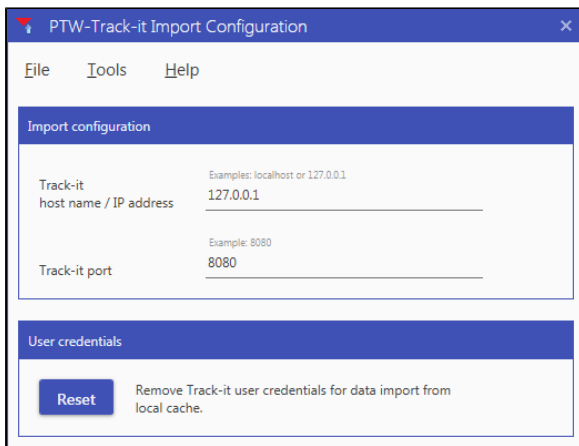

Figure 2: *Track-it Import Configuration* main screen
- The *Track-it Import Configuration* main screen (refer to Figure 2) will be displayed.